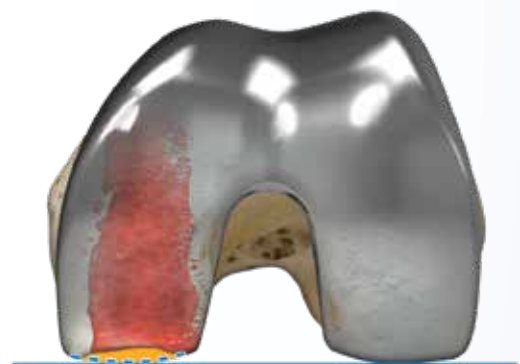

Figure 5: Restoration of Pre-arthritic Femoral Joint Line in Flexion
- **Posterior Resection:** Posterior resection and femoral rotation can also be adjusted to restore the pre-arthritic natural anatomic alignment of the posterior condyles (Figure 5). If there is full cartilage thickness present on the posterior condyles, posterior resection should be set equal to the thickness of the posterior aspect of the implant (e.g., 9 mm). The femoral rotation should be set to 0° from the posterior condyle axis. If cartilage wear is present, the resection on the affected condyle should be set to the implant thickness minus the estimated cartilage wear.